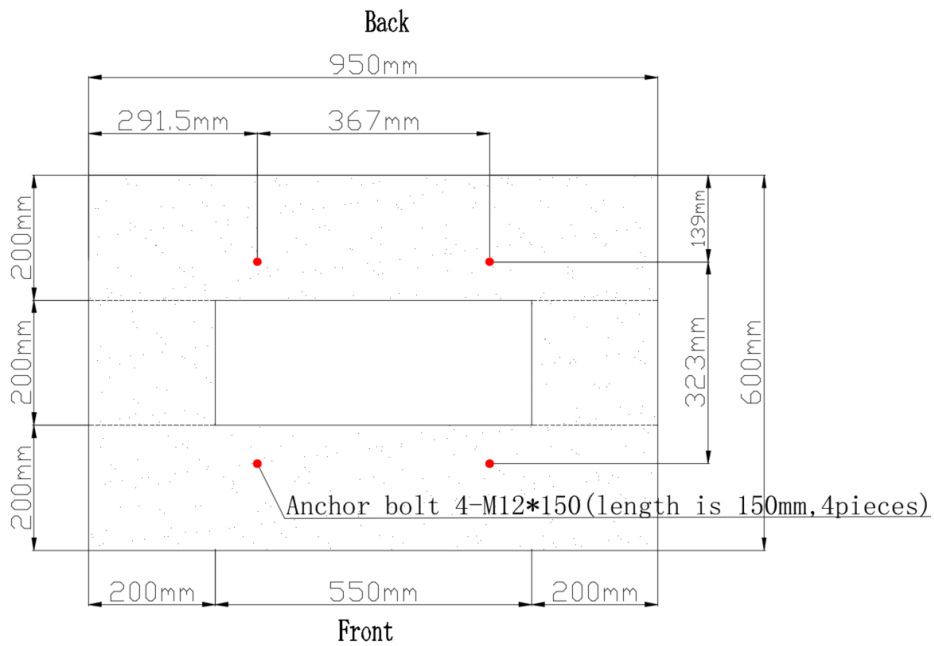
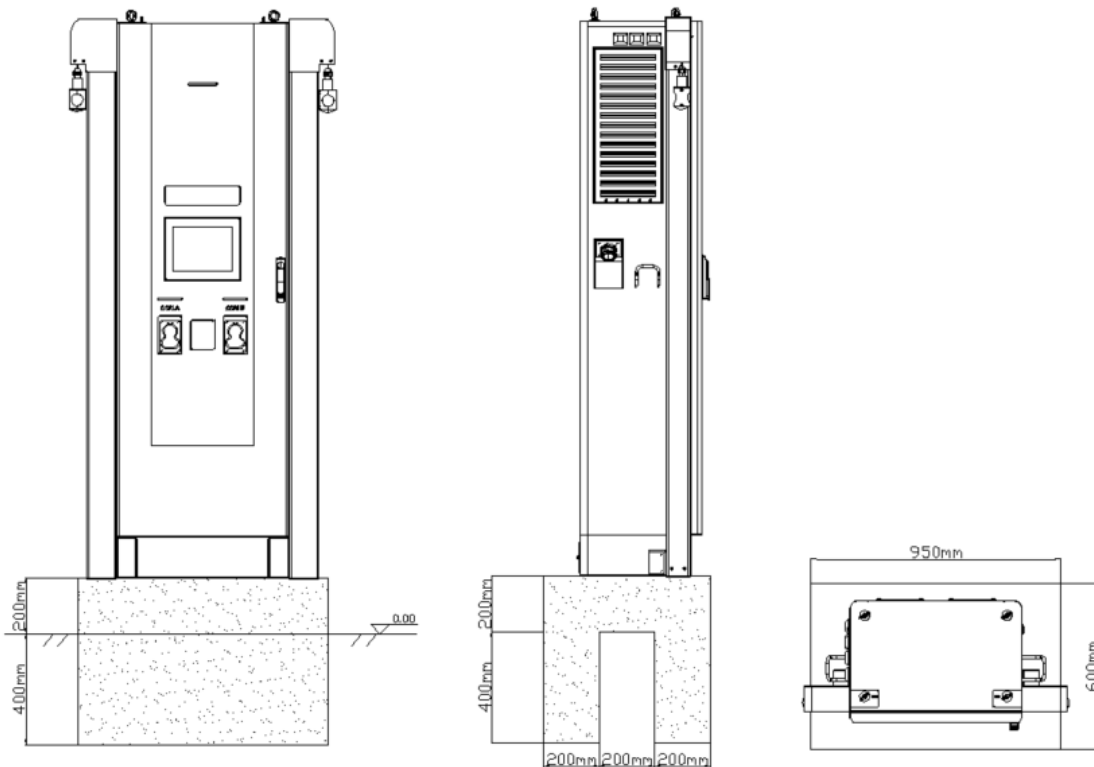

Figure 3 Top view of concrete foundation of user unit
Figure 4 Installation three views of the user unit
(8) The top view of the concrete foundation at user unit is shown in Figure 3, and the installation three views are shown in Figure 4.